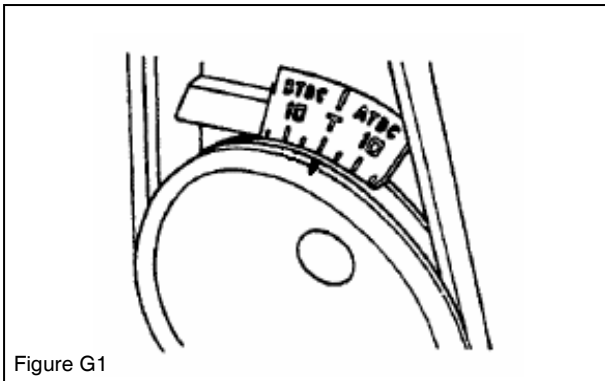

Figure G1
1. Using the timing indicator on the crankshaft pulley, set the engine on 0 degrees Top Dead Center (TDC) of number 1 cylinder (Figure G1).